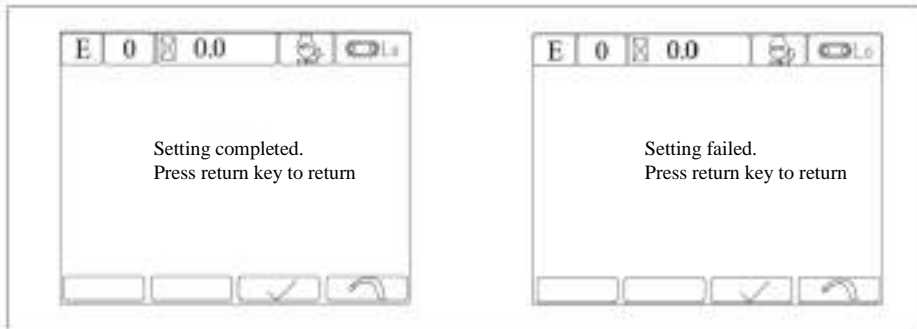

Figure 3-27 Throttle setting result interface
f) Setting result is shown in Figure 3-27.